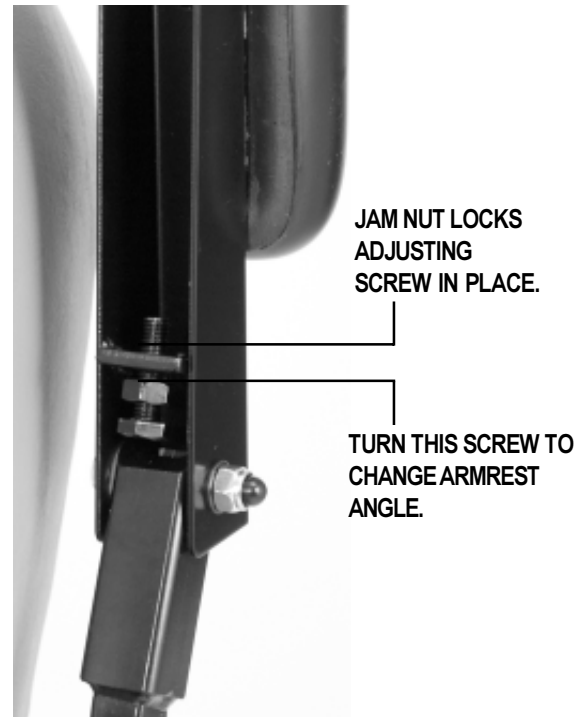

Figure 14. Armrest Angle Adjustment
You can adjust the armrest angle to fit your specific needs. See figure 14.
2. Use a 1/2-in. wrench to loosen the jam nut. See figure 14.